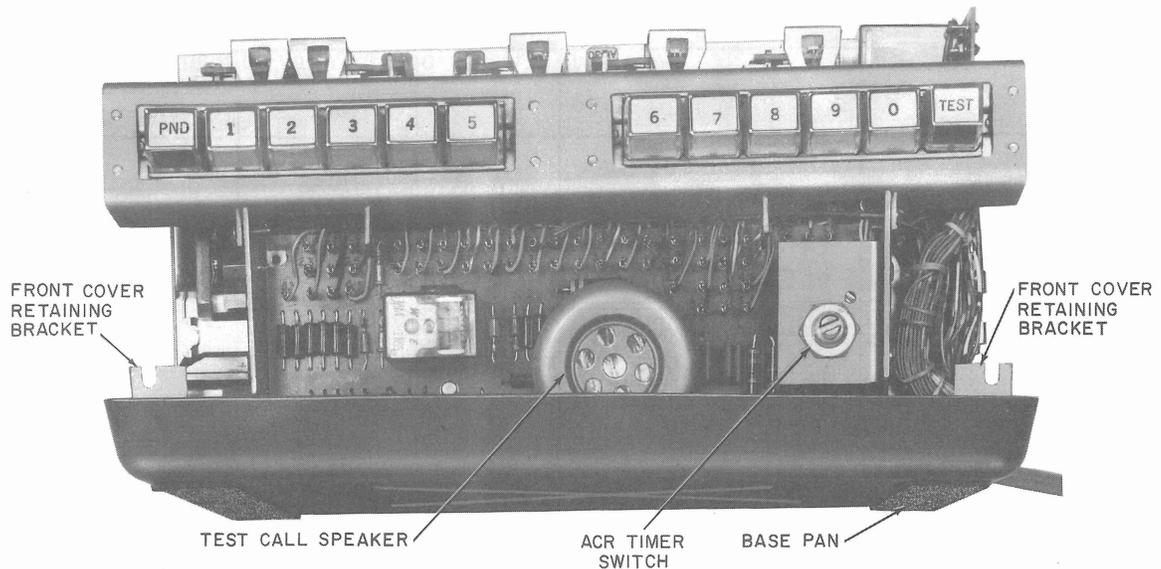

Fig. 3—Data Auxiliary Set 801C3 or 801C4—Cover Removed, Front View
2.08 The ACR timer can be adjusted to give nominal 7-, 10-, 15-, 25-, or 40-second time intervals. In DAS 801C3 and 801C4 series 5 and above, there is an additional 40-second monitor switch position that makes it possible to monitor the progress of a normal call using the ACU speaker. For information on setting the ACR timer switch, refer to the section entitled Data Auxiliary Sets 801C3 and 801C4, Installation (598-012-201). Refer to Fig. 3 for a view of the data auxiliary set with the cover removed and the ACR timer switch.